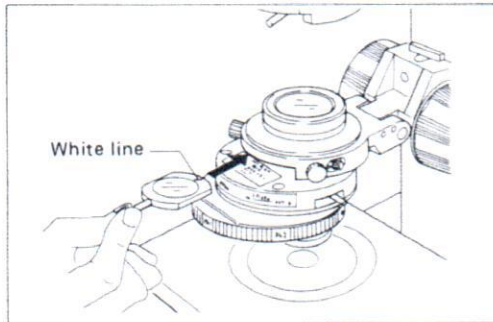

Fig. 12
- ⑦ After finishing the above lamp centering procedure, drop the diffuser with its mat surface faced toward the user into the closest groove of the filter holder.
- ① Be sure that the white line on the polarizer slider faces upward. (Fig. 12)